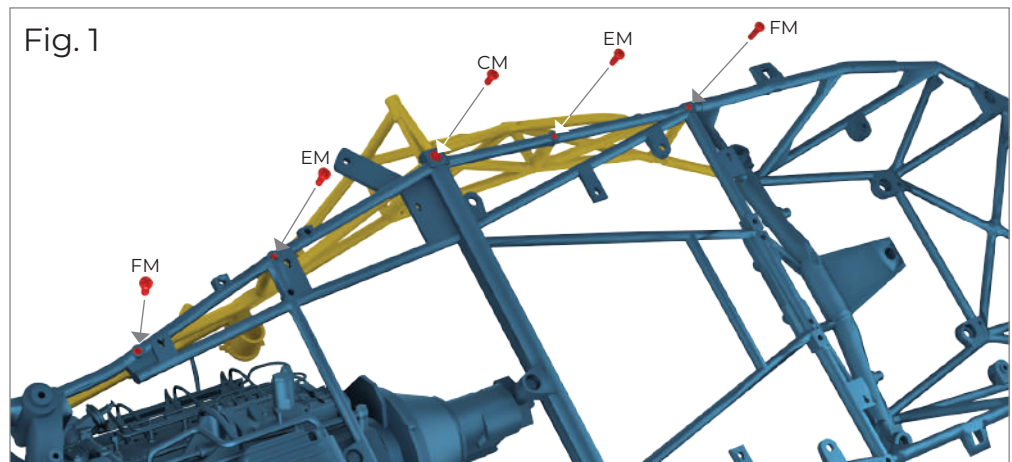

Fig. 1
Turn the model over to see it from below. Now you can screw left frame (2) **15B** to the main chassis **14A**, as shown in the figure. Start at the front end and screw in the **FM, EM, CM, EM, FM** screws one after another (figure 1).